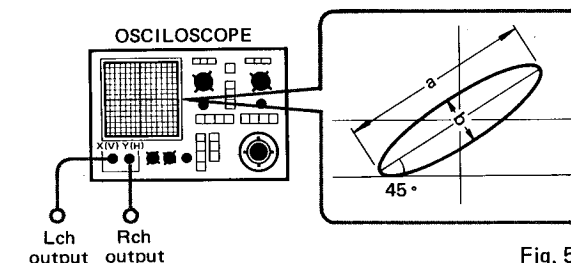

Fig. 5
* When the maximum level point of R channel does not equal that of L channel, connect the oscilloscope as shown in Fig. 5 and proceed with azimuth adjustment so that L and R channels are in phase.